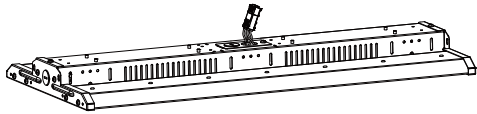
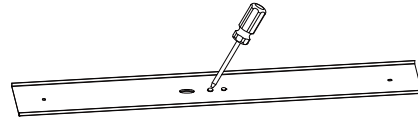
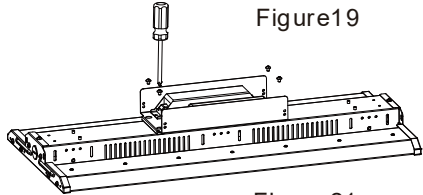
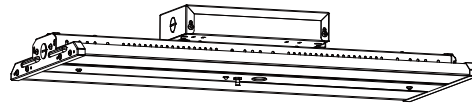

Figure19
Figure20
Figure21
Figure22
Step1. Knock off the knockout hole on the back of the fixture, take out the wires from the knockout hole (Figure 19), open the front cover of the fixture, and knock out the two knockout holes on the cover (Figure 20); Step2. Open the cover of the backup driver box, install the backup driver box at the corresponding position on the back of the fixture (Figure 21), connect the wires according to the marking instructions on the wire, mount the buttons and indicators of backup driver on the front cover of the fixture (Figure 22), then fix the cover to the fixture.